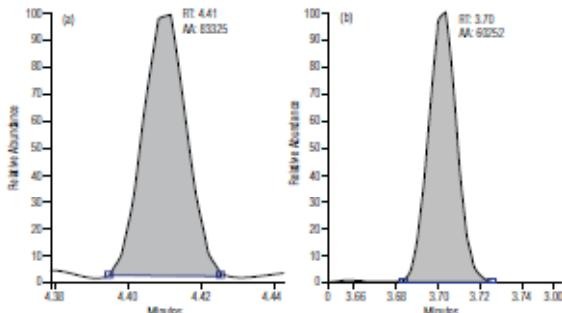
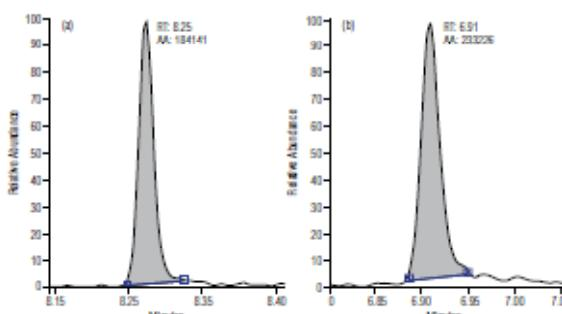
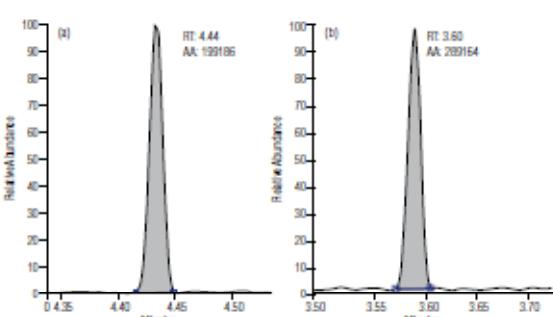

Figure 1. Injection of 1 pg/ $\mu$ l. OFN in EI mode results in S/N of at least 100:1 for hydrogen (a) vs. 600:1 for helium (b).
Figure 2. Injection of 100 pg/ $\mu$ l. benzophenone in CI mode results in S/N of at least 300:1 for both hydrogen (a) and helium (b).
Figure 3. Injection of 200 pg/ $\mu$ l. OFN in CI mode results in S/N of at least 600:1 for both hydrogen (a) and helium (b).
The system sensitivity was such that a 1  $\mu$ L injection of 1 ppb standard yielded a signal-to-noise (S/N) ratio of at least 100:1 (Figure 1) for octafluorophthalene (OFN) in EI mode. Chemical Ionization (CI) yielded S/N of at least 300:1 (Figure 2) and 600:1 (Figure 3) for 100 pg benzophenone and 200 pg OFN respectively.